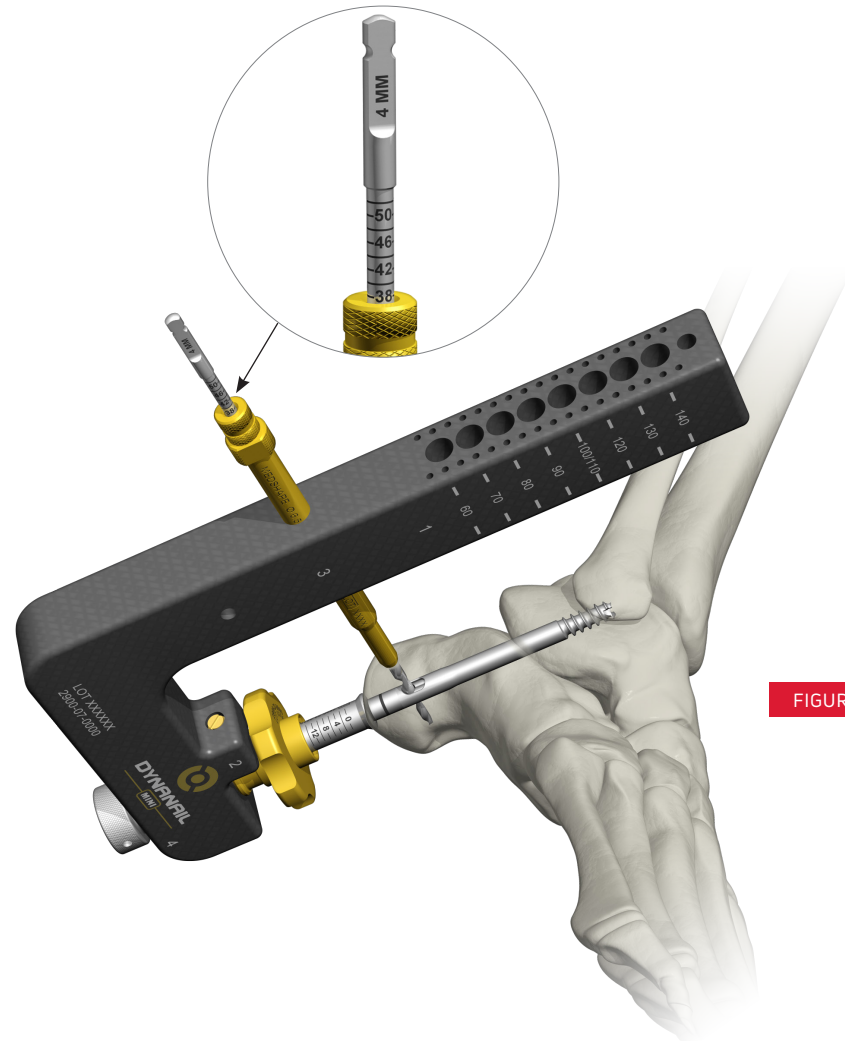

FIGURE 12
1. With the Drill Guide abutted to the bone, read the laser marks on the Drill off the back of the Drill Guide (FIGURE 12).